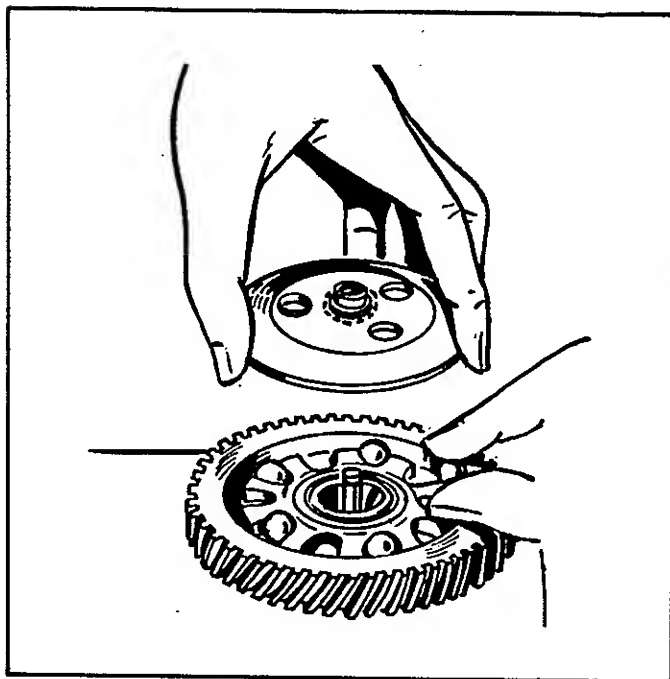

FIGURE 11-6. INSTALLING GOVERNOR CUP
6. When reinstalling the governor cup, tilt the engine so the gear is up. Equally space the flyballs on the gear, and install the cup and snap ring on the camshaft center pin (Figure 11-6).